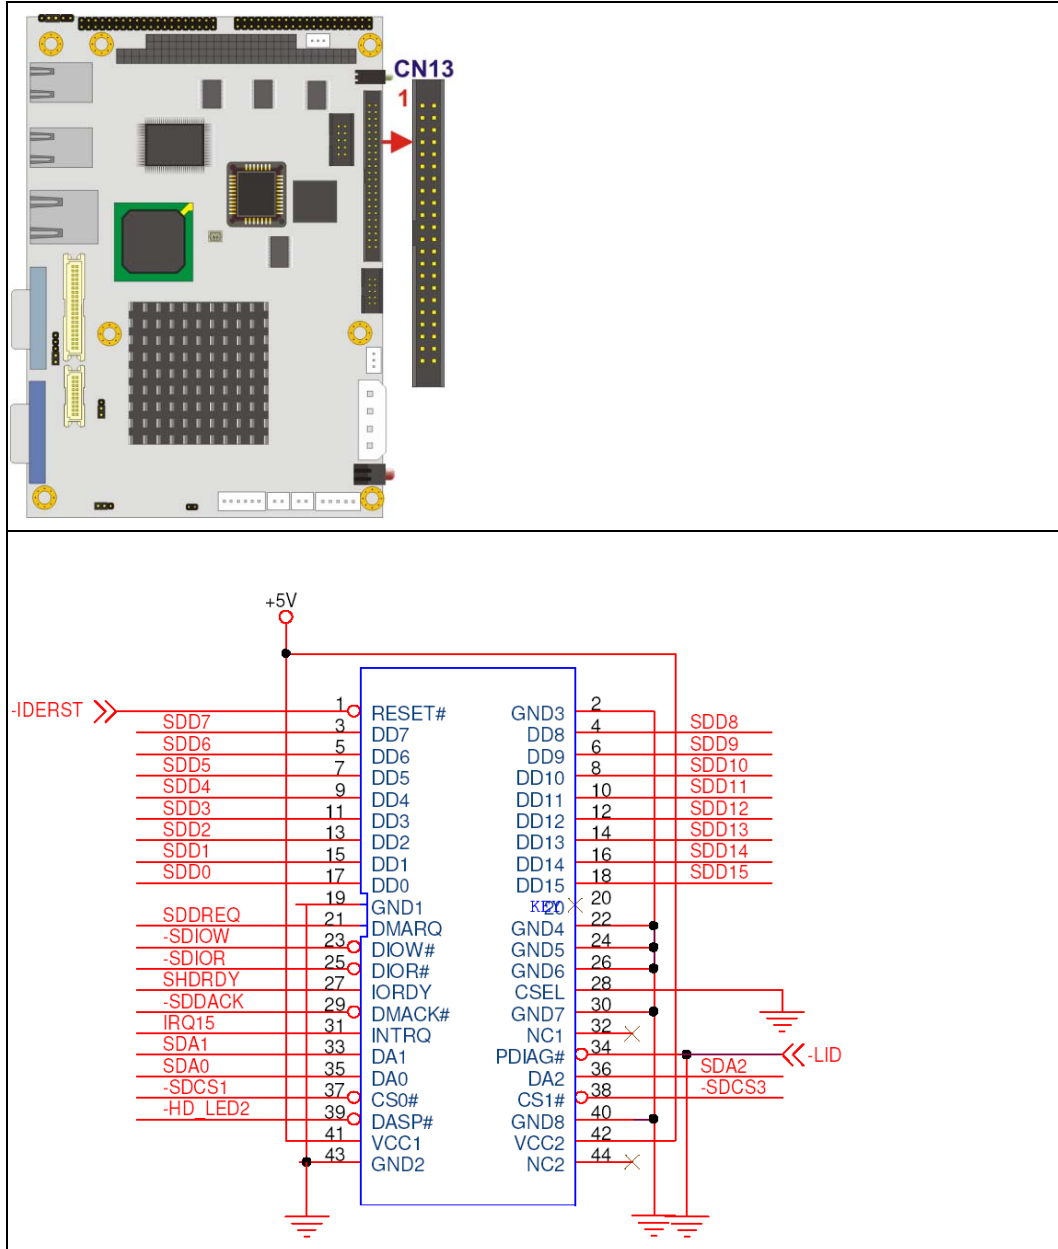

Figure 4-10: Secondary IDE Device Connector Locations
- CN Location:** See Figure 4-10